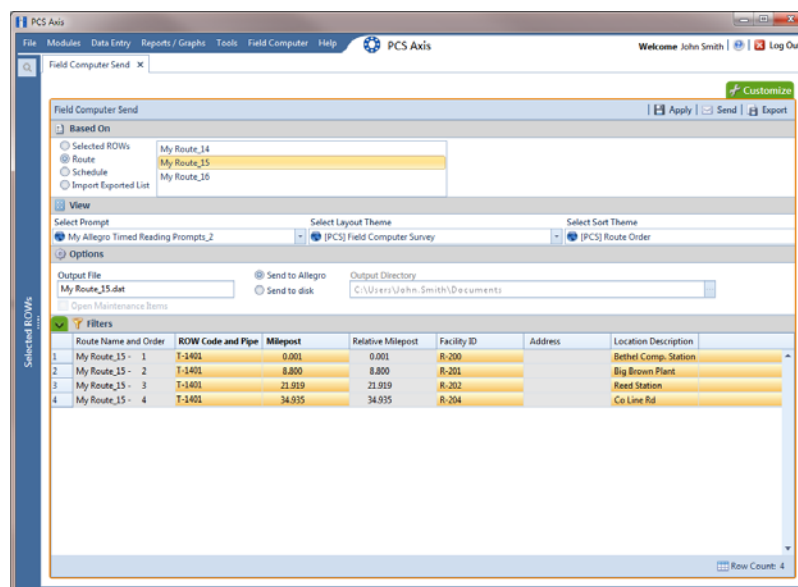

Figure 7-22. Field Computer Send
- 16 Click the **Route** option and select a route in the selection box. Then click  **Apply** to update the grid (Figure 7-22).
- 17 Click the down arrow in **Select Prompt** and select a theme with timed reading fields (Figure 7-22, page 304).